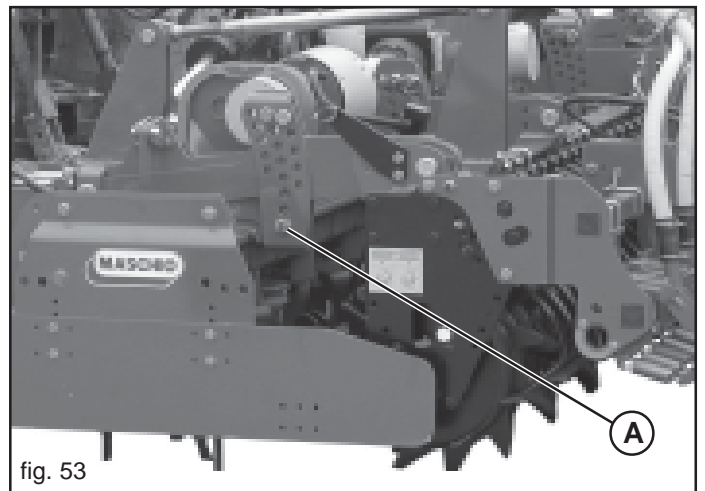

fig. 53
Before carrying out the closing procedure, ensure that the pins (A) of the lower limit stop, of the rear rollers of the rotating harrow, are in the lowered position, as shown in Figure 53.